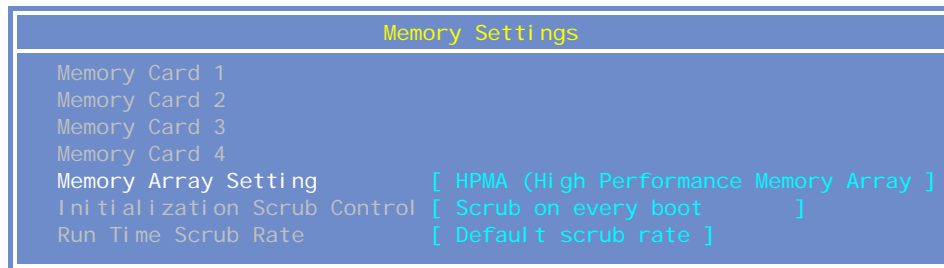

Figure 3-15 Memory BIOS settings
4. Select **Memory Options**. The Memory Settings selection menu opens, as shown in Figure 3-15.